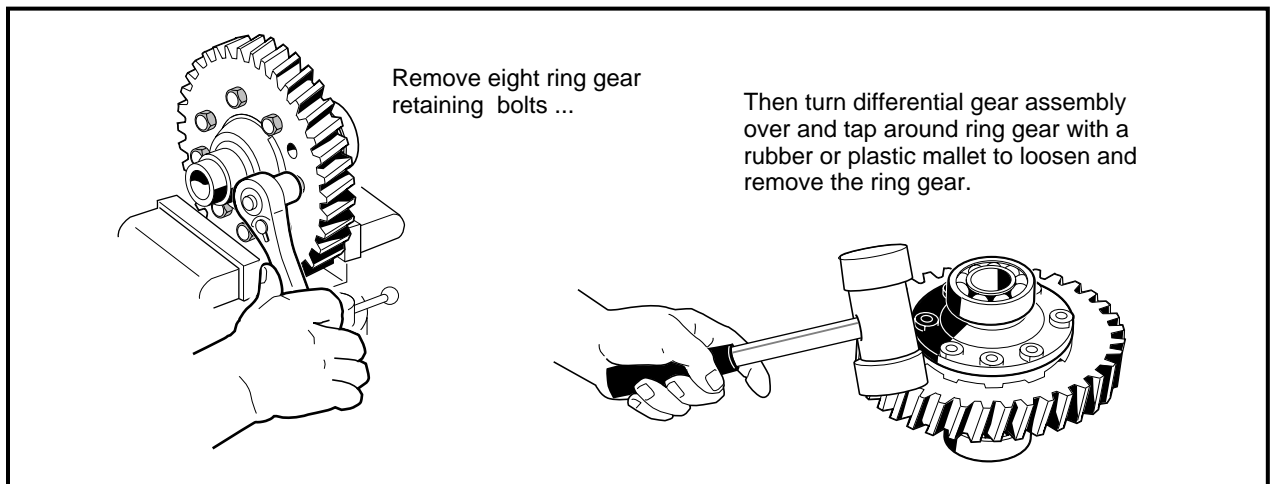

Figure 16-45 Remove Ring Gear
1. Remove eight ring gear retaining bolts (80) (**Figure 16-5, Page 16-4**), then remove the ring gear from the assembly. It may be necessary to tap the ring gear off with a plastic or rubber mallet (**Figure 16-45, Page 16-19**). See following **NOTE**.